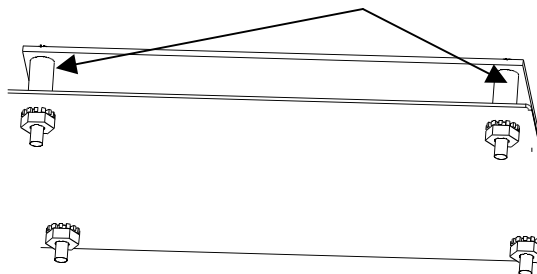

Fig.15: The motor interface board rests on spacers. Ensure the spacers are in place when the new board is mounted.
- Install the provided board. Ensure it is resting on the stud spacers. Fig. 15. Do not overtighten the four bolts that secure the board in place.